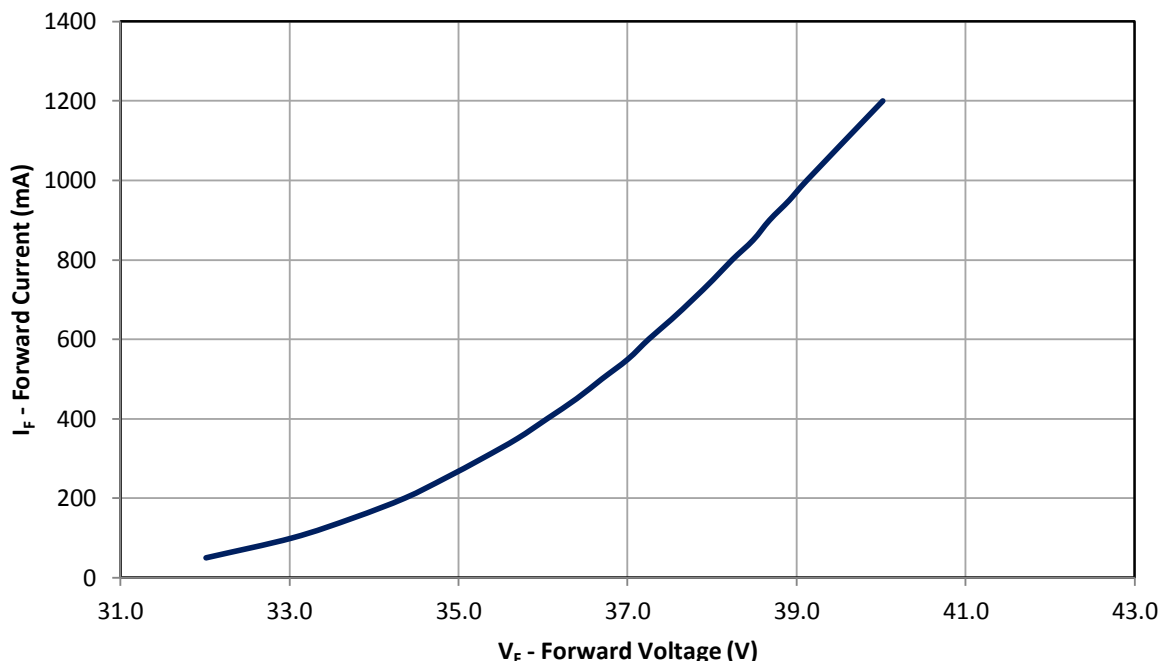

Figure 10: Typical forward current vs. forward voltage @ T_c = at 25°C.
- Maximum DC forward current (per die) is determined by the overall thermal resistance and ambient temperature. Follow the curves in Figure 10 for current derating.